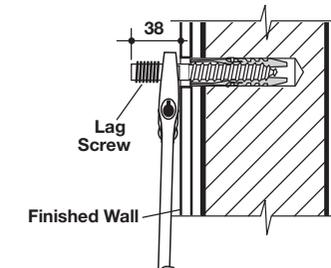
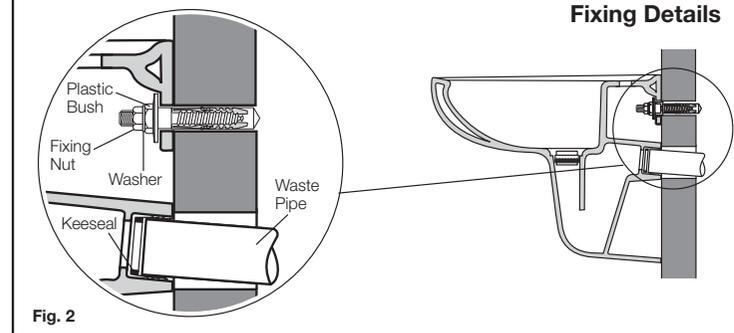

Fig 4
Fig. 2
- 5- Insert expansion fasteners into the drilled holes if required. Screw Lag Screw into the wall using the flats located on the screw section of the stud and spanner as shown in **Fig.2**. Allow 38mm of thread to protrude from the finished wall, as detailed in **Fig.4**.
- 8- Locate basin onto the Lag Screws on the wall. Insert plastic bushes, metal washers and fasten to wall with fixing nut. To complete assembly as detailed in **Fig.2**.